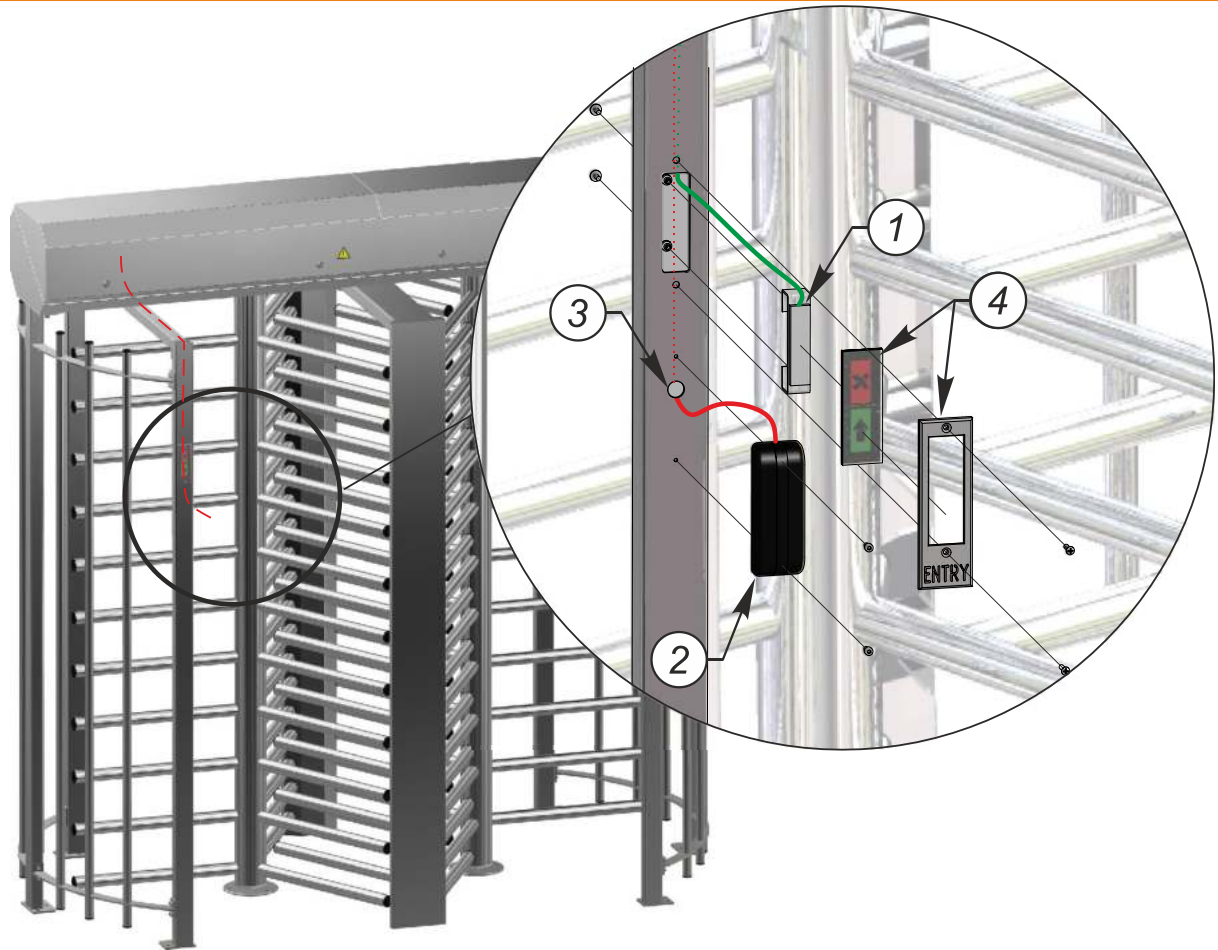

Fig. 14 - Installation of proximity card reader and LED display
- Holes (3) to be made in the access way wall butt (See Figure 14) next to LED display according to the card reader size chosen by the customer. Cable to be pulled to container, card reader (2) to be fixed on the rack and connected;
- LED display bracket (1) to be mounted (g.11,b) in the access way wall, cable to be pulled to container, plate to be installed on LED display and fastened with screws;